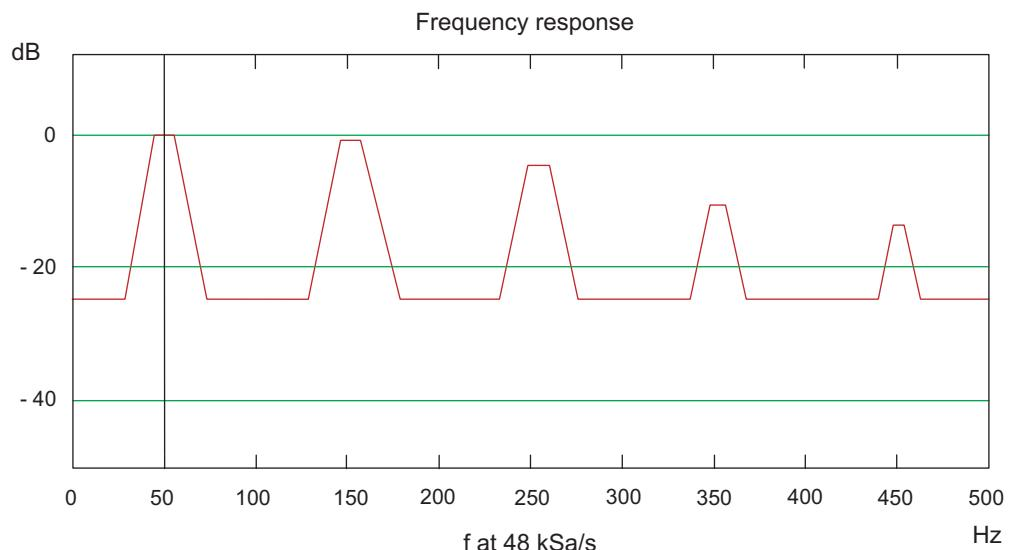
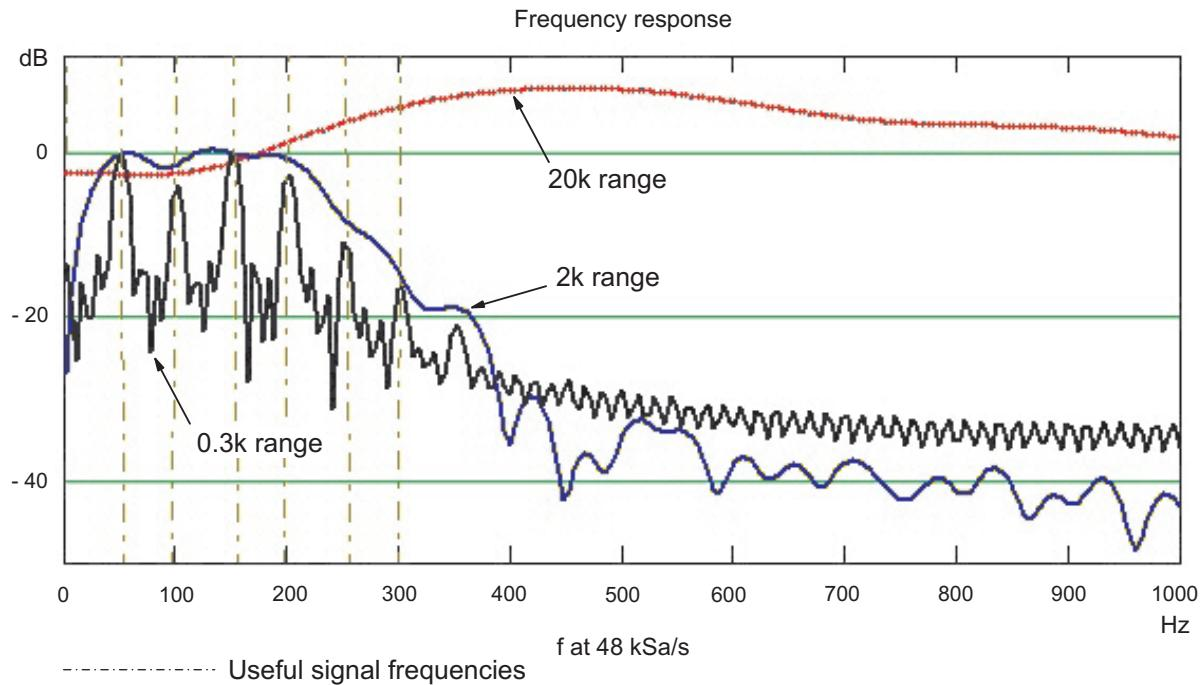

Figure 5.3: Diagram of frequency response of the adaptive filter for a rectangular signal
Figure 5.5: Filter characteristics of the individual frequency ranges
**Description** The adaptive DSP filter is a filter which adapts automatically. It receives its input signal in digital form from the VD-06 velocity decoder. It is designed for natural vibration signals up to 20 kHz and adapts itself to periodic signals. Random noise which occurs statistically independently is suppressed as well as possible by the adaptive filter. Harmonic components and multi-tone signals can also pass the filter due to its multiple band-pass properties. However the filter is not suitable for pulse signals and synthetic signals with a high proportion of harmonics. These signals are distorted in the time domain, as after the third harmonic signal component, noticeable attenuation occurs. The high order of the filter allows a very sharp cutoff as a prerequisite for effective noise suppression. The frequency response of the adaptive filter which has attained steady-state for a rectangular signal at 50 Hz is shown in FIGURE 5.3.
In FIGURE 5.5 you can see the frequency responses of the individual frequency ranges for the input signal from FIGURE 5.3. In the 20k range in the bandwidth shown (0Hz...1kHz), no optimal frequency response can be identified. In the 2k range, the filter limits the pass band to a band-pass which covers all useful signal frequencies and thus suppresses noise. In the 0.3k range with several band-passes around the individual useful signal parts, the possible noise bandwidth is limited even further and the noise is suppressed even more.